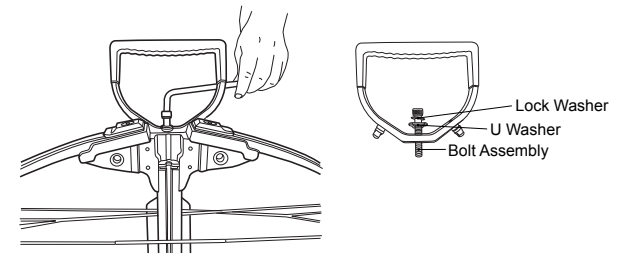

Figure 3
- 13 Secure the bow unit and the foot stirrup to the barrel by tightening the assembly bolt with u-washer and lock washer in place using the 1/4" allen wrench provided. Tighten fully (See Figure 3). **TIP – Do not rock the bow unit back & forth when securing the bow unit onto the barrel. Tightening the assembly bolt will secure the bow unit. Note: Be sure riser is properly installed before engaging crossbow. assembly bolt may need to be retightened periodically after use.**